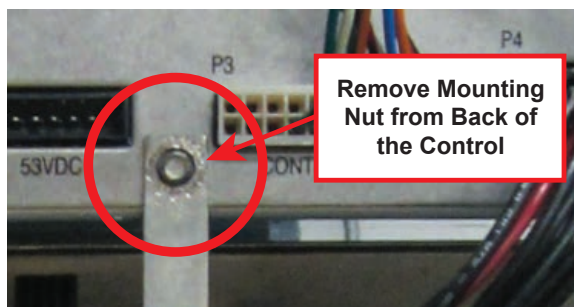

Figure 12 Rear Mounting Nut Location
1. Remove the 7/16" mounting nut from the back of the Eaton Cooper Form 6 control (Figure 12). Save all hardware, it will be used to install the M-2406 Adapter Chassis.